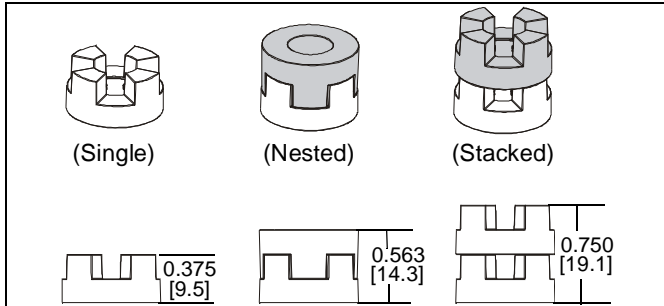

Figure 12
NOTE: The nesting spacers (M) may be used separately, or put two together in different configurations to create different size spacers. (See Figure 12)